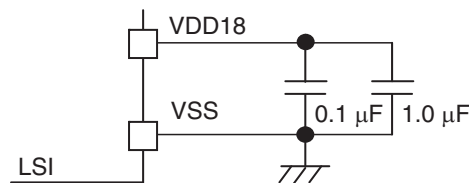

Figure:1.5.1 Capacitor Connection between VDD18 and VSS Pins
*3 Connect appropriate capacitor about 0.1 μF + 1.0 μF between VDD18 pin and VSS pin, near the microcontroller according to the Figure:1.5.1 shown below for the internal power supply stabilization.